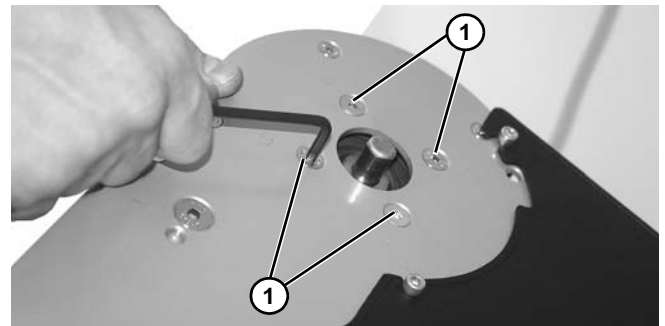

Figure 126
4. Remove four screws (Figure 126, item 1) on side of drive spindle.